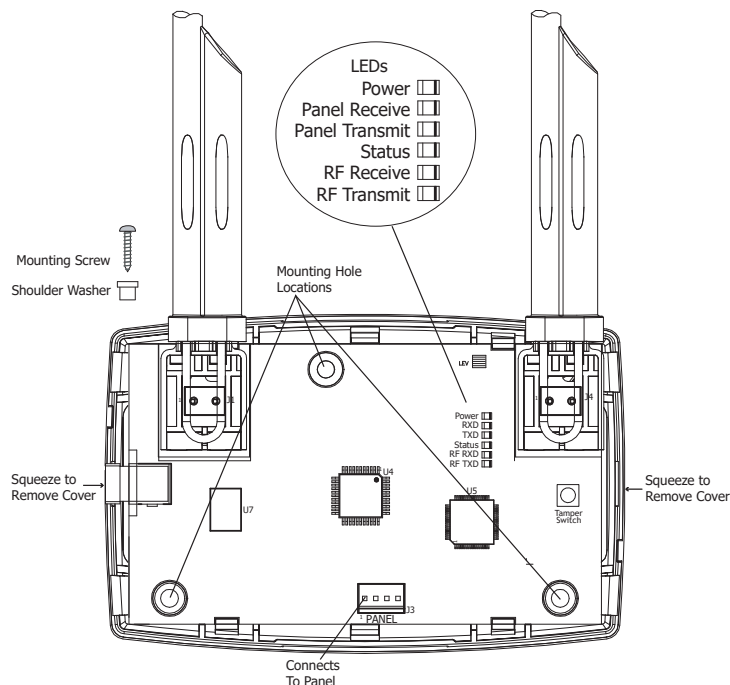

Figure 1: Receiver PCB
2. Secure the receiver to the wall ensuring the two antennas are pointing up and the wall tamper switch makes proper contact with the wall. Use the supplied screws in the mounting hole locations as shown in Figure 1.